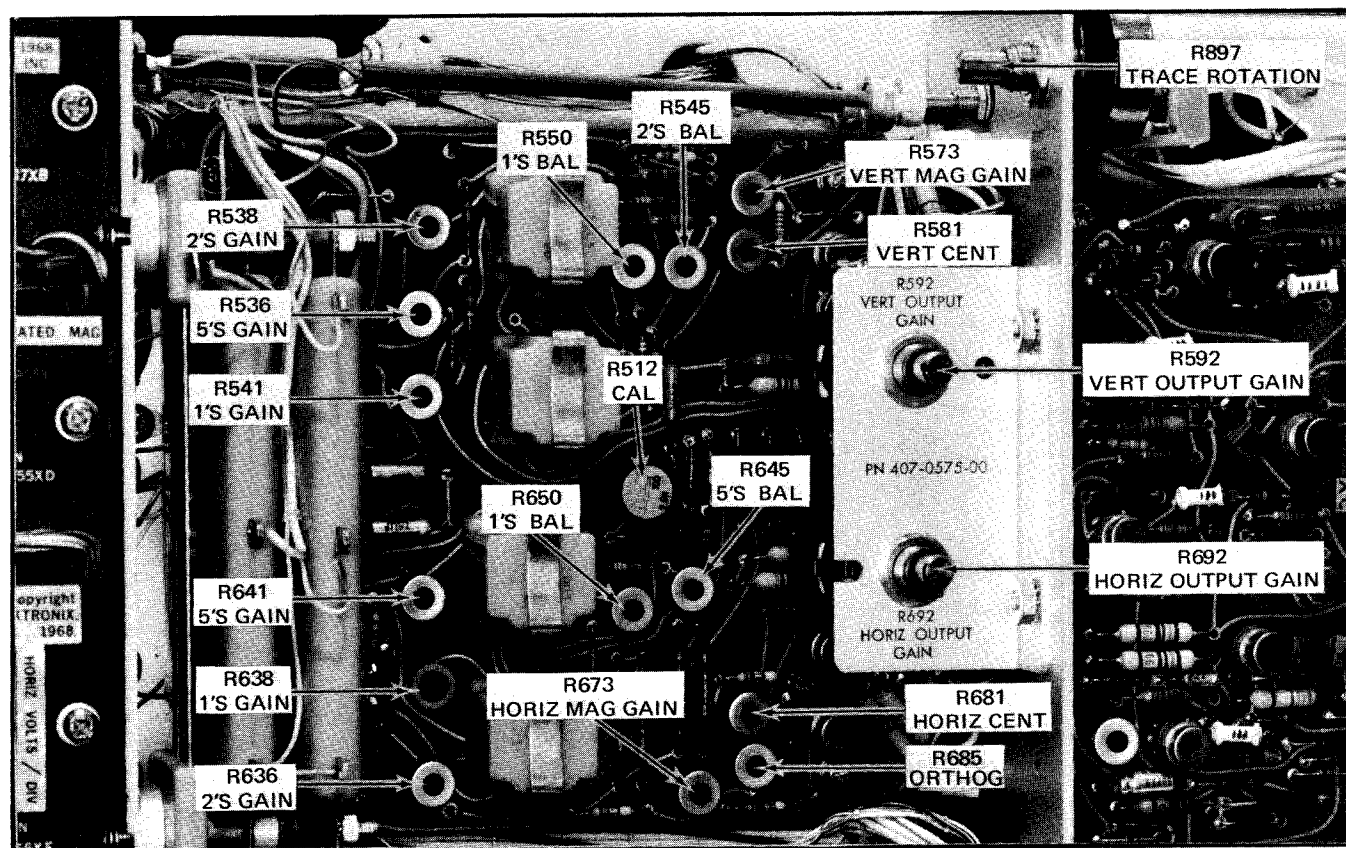

Fig. 5-6. DISPLAY AMP circuit board: Location of adjustments in step 4 and steps 7 through 13.
k. ADJUST—R685, ORTHOGONALITY adjustment, on the DISPLAY AMP circuit board (see Fig. 5-6) if the trace is not parallel.
d. ADJUST—R681, HORIZ CENT adjustment, on the DISPLAY AMP circuit board (see Fig. 5-6) if the spot is not centered.
- h. ADJUST—R650, 1'S BAL adjustment, (see Fig. 5-6) if the spot is not centered.
- k. ADJUST—R645, 5'S BAL adjustment, (see Fig. 5-6) if the spot is not centered.
- d. ADJUST—R581, VERT CENT adjustment, (see Fig. 5-6) if the spot is not centered.
- h. ADJUST—R550, 1'S BAL adjustment, (see Fig. 5-6) if the spot is not centered.
- k. ADJUST—R545, 2'S BAL adjustment, (see Fig. 5-6) if the spot is not centered.
- c. ADJUST—R692, HORIZ OUTPUT GAIN adjustment (see Fig. 5-6) if the spot is not on the prescribed vertical graticule line.
- c. ADJUST—R592, VERT OUTPUT GAIN adjustment, (see Fig. 5-6) if the spot is not on the prescribed vertical graticule line.